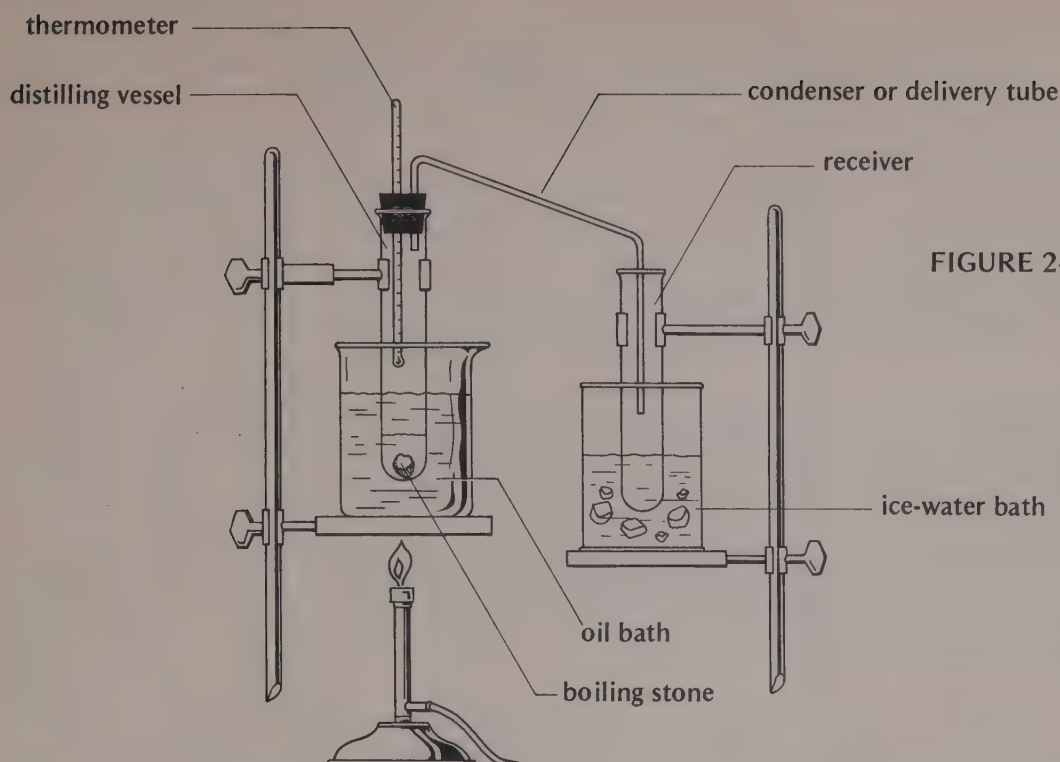

FIGURE 2-8: Distillation apparatus for Experiment 2-6.
1. Assemble the apparatus shown in Figure 2-8.